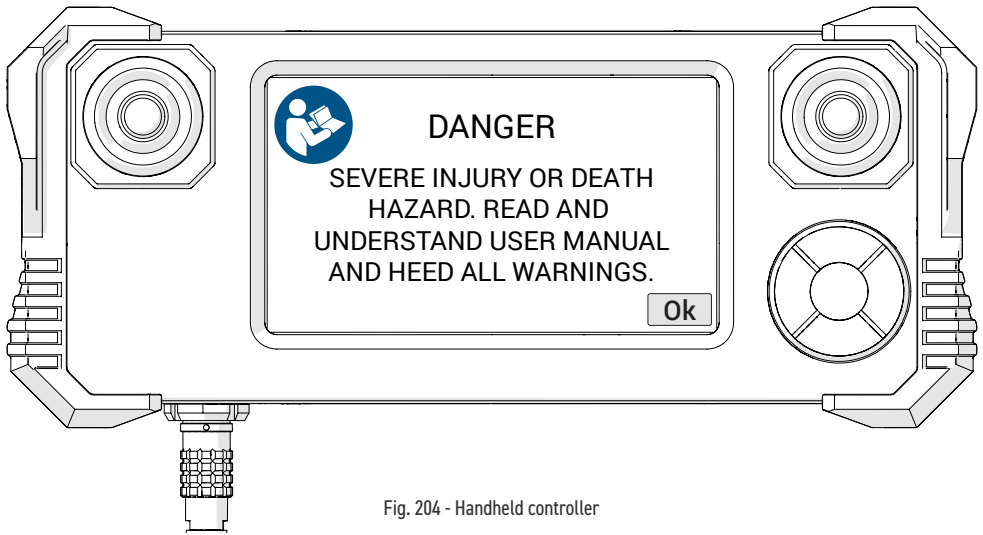

Fig. 204 - Handheld controller
5. A warning message will display on the handheld controller when power has been activated. Once the dangers of using the **MOTIX** are recognized and understood by reading this user manual, touch **Ok** to acknowledge the warning (*Fig. 204*).